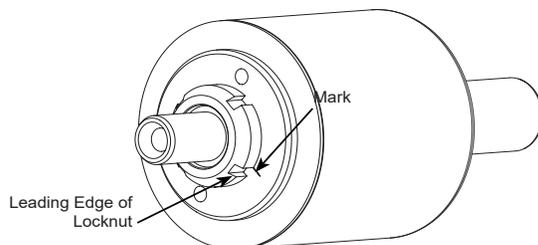

FIGURE 16
4. Slide the inner magnet onto the shaft and engage the pin of the magnet into the hole of the thrust washer. Install the locknut, beveled edge out. Tighten the locknut to the torque value given in **Table 6**. Place a mark on the trailing edge of the locknut slot. Refer to Figure 16. Back off the locknut until the leading edge of that same slot lines up with the mark. This will establish the proper clearance for the thrust washers.